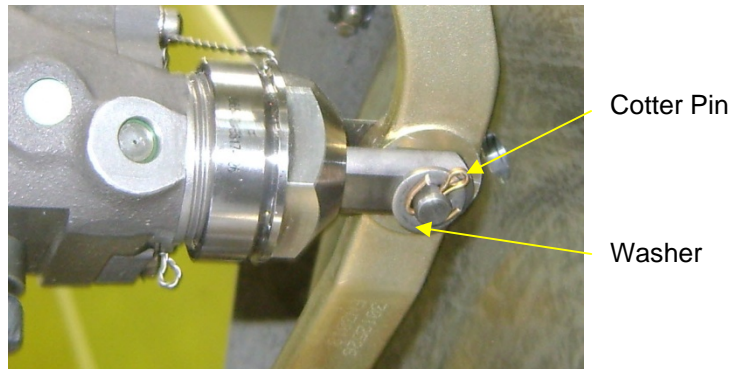

Figure 5-2: Beta Valve Piston Viewed From Below
- a. Remove the cotter pin and washer from the clevis pin securing the beta arm to the beta valve piston. Refer to **Figure 5-2**.